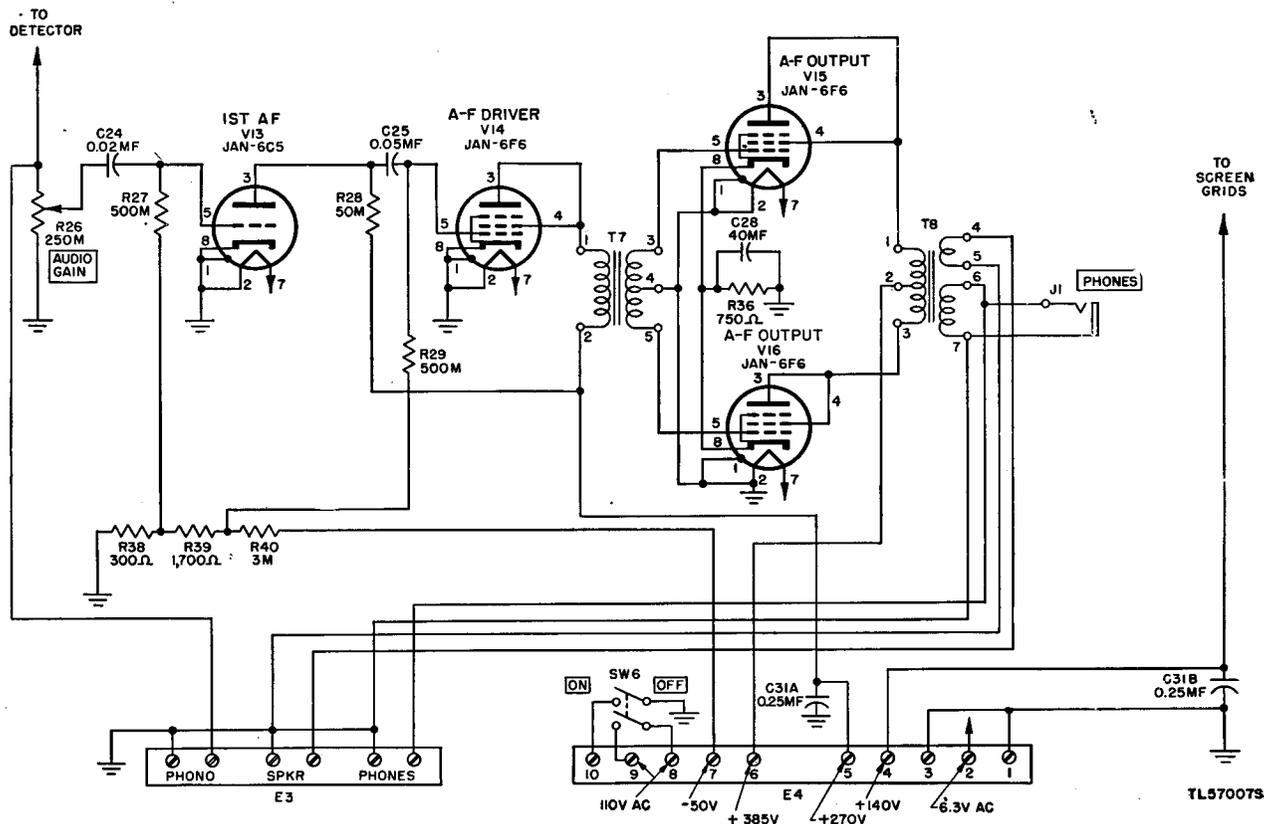

Figure 33. Radio Receiver BC-779-B, functional diagram of a-f amplifier stage.
a. The signal voltages across the untuned secondary of i-f output transformer L32 are applied to diode detector Tube JAN-6H6 (V8). The two diode sections are connected in parallel and the tube acts as a half-wave rectifier. The diode load is composed of 100,000-ohm resistor R48, 75,000-ohm resistor R24, 50,000-ohm resistor R25, and 250,000-ohm resistor R30 in series between L32 (point A) and the cathode of V8 (point C). The entire load resistance is bypassed by 50-mmf capacitor C44 which acts as an r-f filter. Two additional 50-mmf capacitors, C45 and C26, also provide r-f filtering. The rectified diode current passes through the load resistance, and the load voltage variations are a function of the modulation of an incoming signal. The voltage across R25 is taken as output voltage and applied to 250,000-ohm AUDIO GAIN potentiometer R26 (fig. 33).
a. An input transformer, T1, T2, or T3, is connected to the power source by 7-foot line cord W1 and is fused by 2-ampere (amp), 250-v fuse F1. Terminals 8 and 9 of terminal strip E1 are connected to terminals 8 and 9 of receiver terminal strip, E4 (fig. 33) by the connector cable. Closing receiver ON-OFF switch SW6 therefore completes the primary circuit of the transformer. The average power consumed is 180 watts.